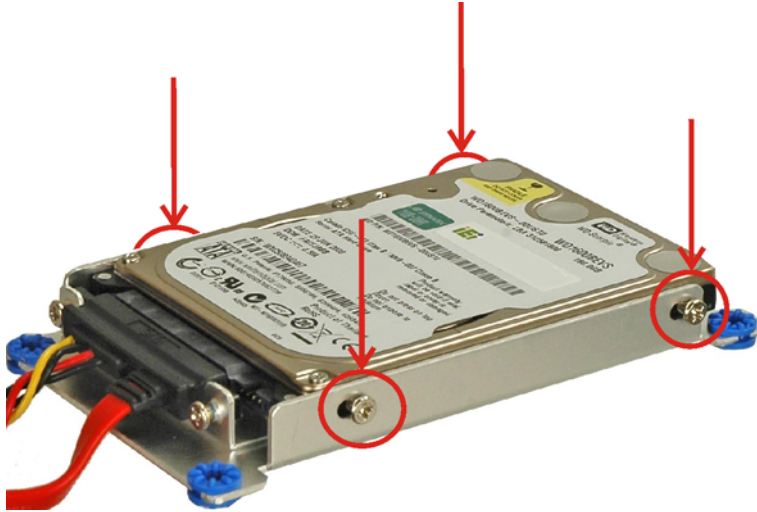

Figure 3-6: AFL-xxx-9103 Hard Drive Retention Screws
Step 4: Attach the hard drive bracket to the hard drive. To do this, align the four retention screw holes in the both sides of the hard drive bracket with the retention screw holes on the sides of the hard drive. Insert four retention screws into the hard drive bracket (**Figure 3-6**).